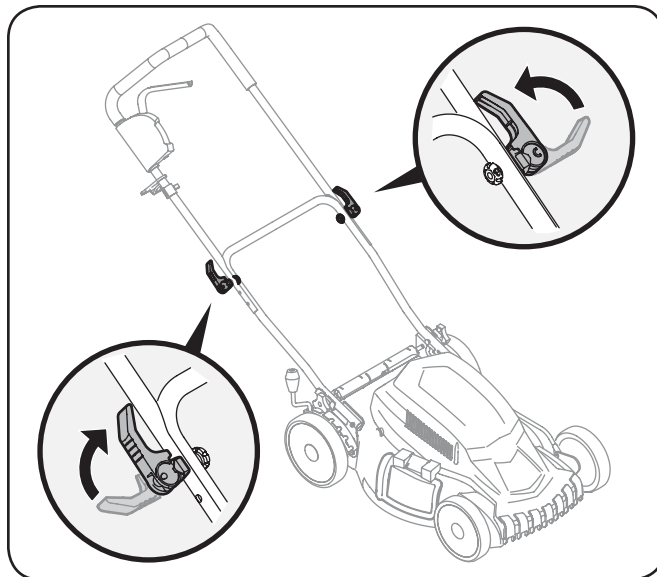

Figure 3-5
- Tighten the clamps. See Fig. 3-5.